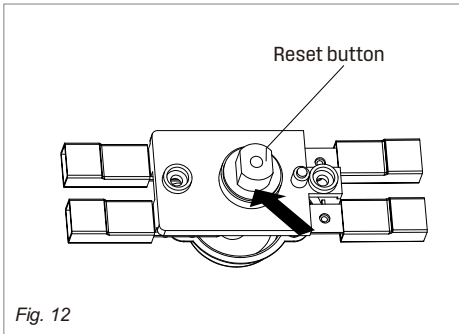

Fig. 12
- Firmly press reset button (Fig. 12) with the tip of a ball point pen or similar object.